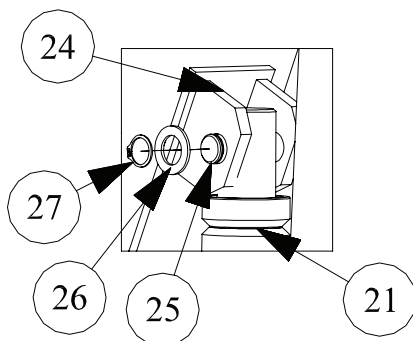

Figure 10
8. On the opposite side of the retaining pin [#25], place the other 3/4" washer [#26] onto the retaining pin [#25] and then snap the other 3/4" retaining ring [#27] into the groove on the retaining pin [#25] as shown in Figure 10.